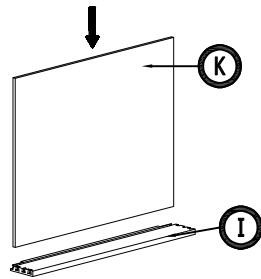

Figure 1
1. Place the side panel (A) face down on a flat soft working surface to ensure that the face is not scratched or damaged. (Figure 1).
1. Install the drawer bottom into drawer box back, click into place (Figure 1)